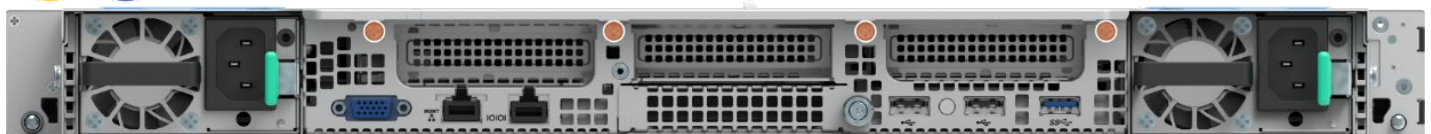

Figure 28. Chassis Riser Card Bracket Screws Removal
4. If present, remove the four fastener screws on the chassis back panel. See Figure 28.